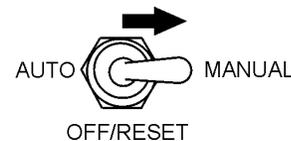

Figure 41. MPEC Control Switch (Manual Position)
2. Place the **MPEC control switch** in the **MANUAL** position to start the engine (Figure 41).